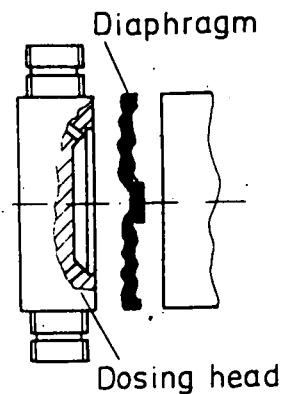

Figure 4
- Unscrew the closing screw (40), and collect the gear oil in a container.
- Loosen the 6 screws of the dosing head (22) and remove the dosing head (21).
- Remove the diaphragm and place the new diaphragm.(fig. 4)